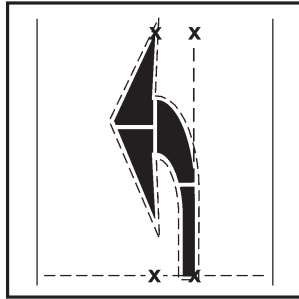

Figure 53
- Lay out the middle section of the arrow on top of the base. Lay the two sections from the top of the arrow above the middle section. Mark around the entire arrow with grease chalk or keel (see Figure 53).
- After the surface preparation adhesive is set, remove the liner from the base of the arrow and carefully lay it down using the marks made in Step 5 as a guide (see Figure 53).